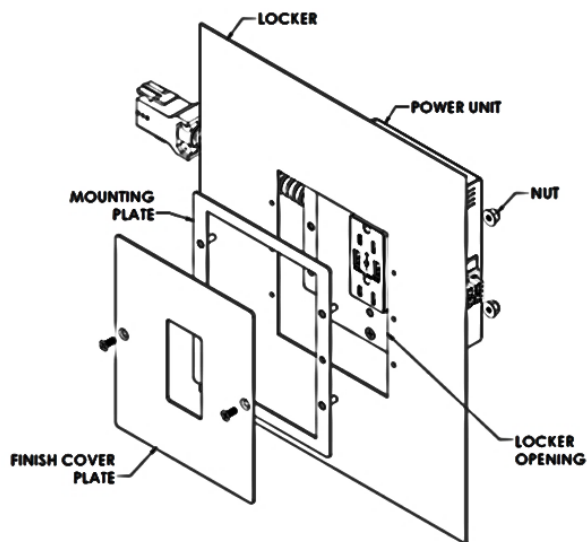

FIG 2
4. Attach the Power unit from the rear aligning the flange holes over the studs. Thread on the four flange nuts (B). Take care not to over tighten (FIG 2).
5. Attach the finish plate via the two center holes on the Mounting plate (FIG 2).